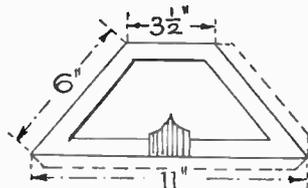
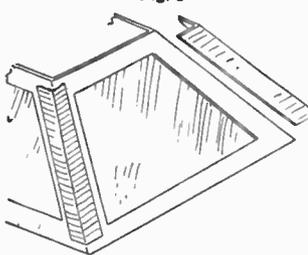

Fig. 3
Fig. 4
The top to the lantern is shown in detail at Fig. 3. Cut four sides like this, ignoring the dotted strips, and paste paper down the angles as shown in Fig. 4. A stiffish paper is needed here. If desired, and if sufficient card can be got large enough, two of the sides can be cut together, which would save time in joining the two angles instead of the four. The dotted strips in this case will be used in fastening each pair of sides which will be angled up as previously
thick card, plastic, etc., is made (Fig. 3). There is a small platform *q* of wood and a ring *r* to which a dog lead swivel *s*, or something similar, is attached. A yard or so of strong thin cord *t* is attached. Fig. 4 shows how, by moving one hand in small circles, the ring may be spun horizontally to the ground.
Practice this on a garden lawn and, at first, with a tin can, etc., instead of a glass tumbler. The attachment at *r* must be very strong, particularly if you wish, by way of variety, to stand the glass of water on its platform and after a few pendulum-like motions, whirl the apparatus at full arm's length round vertically. There is no skill whatever in this, but since, in the event of anything 'giving' there is likely to be a bad accident with a glass of water flying through the air, it is best to keep to the demonstration as shown in Fig. 4, which is perfectly safe and extremely effective. (160)